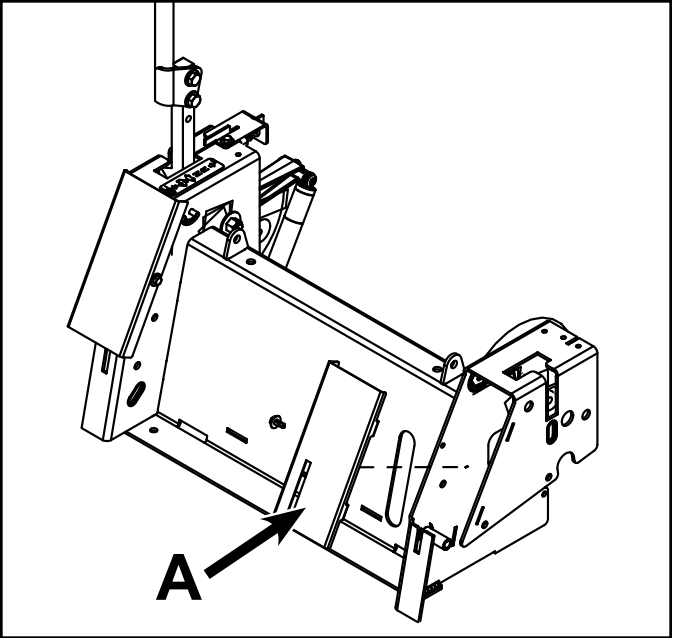
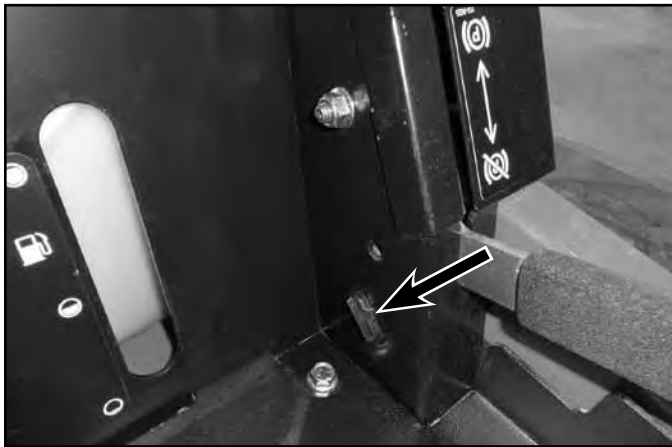

Fig. 146
Fig. 145
The Parking Brake Switch is located in the control box assembly, near the parking brake lever. Remove LH control cover (A) for better access (Fig. 145 and Fig. 146).